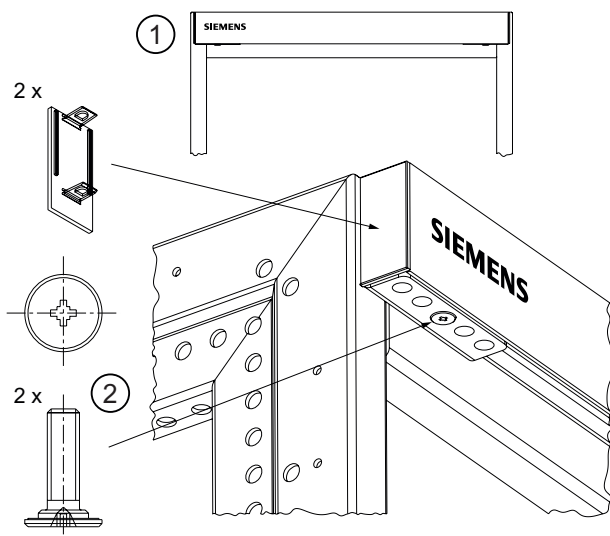

Fig. 11
- 1 Place the trimstrip on the upper door support angles according to Figure 11.